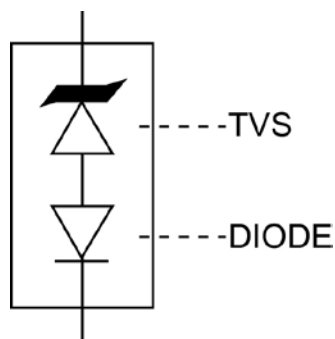
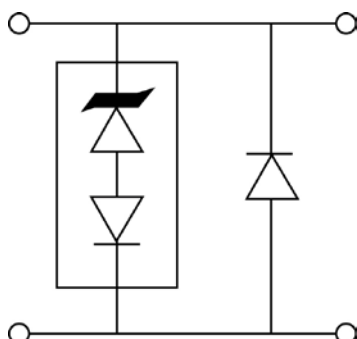

Figure 4
Figure 5
1. With impulse repetition rate (duty factor) of 0.01 % max. TVS devices are not typically used for dc power dissipation and are instead operated $\leq V_{WM}$ (rated standoff voltage) except for transients that briefly drive the device into avalanche breakdown (V_(BR) to V_C region) of the TVS element. Also see Figures 5 and 6 for further protection details in rated peak pulse power for unidirectional and bidirectional configurations respectively.
The TVS low capacitance device configuration is shown in Figure 4. As a further option for unidirectional applications, an additional low capacitance rectifier diode may be used in parallel in the same polarity direction as the TVS as shown in Figure 5. In applications where random high voltage transients occur, this will prevent reverse transients from damaging the internal low capacitance rectifier diode and also provide a low voltage conducting direction. The added rectifier diode should be of similar low capacitance and also have a higher reverse voltage rating than the TVS clamping voltage V_C . The Microsemi recommended rectifier part number is the "SMBJLCR60" for the application in Figure 5. If using two (2) low capacitance TVS devices in anti-parallel for bidirectional applications, this added protective feature for both directions (including the reverse of each rectifier diode) is also provided. The unidirectional and bidirectional configurations in Figure 5 and 6 will both result in twice the capacitance of Figure 4.